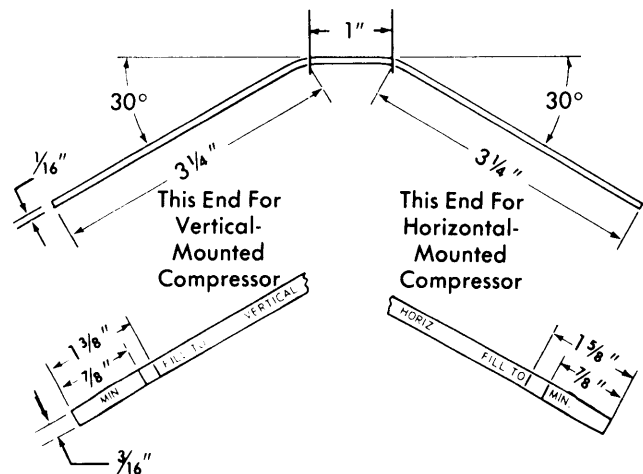

Fig. 3 Tecumseh Compressor Oil Level Dipstick
2) Stop engine and discharge entire system using a suitable Schrader-Type service valve. Fabricate a suitable dipstick according to specifications (see Fig. 3). Remove oil filler plug and insert dipstick until it bottoms. If necessary, slightly rotate compressor crankshaft by hand so that dipstick will clear. Level on dipstick must be within specifications.